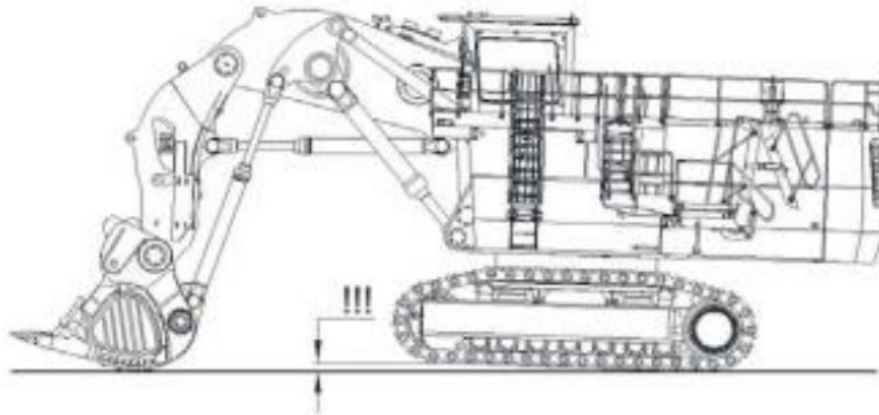

Fig.6: position the machine as shown. Ensure, that the tracks are slightly lifted off the ground. Take measurement.
20. Position the machine as shown in fig. 6.